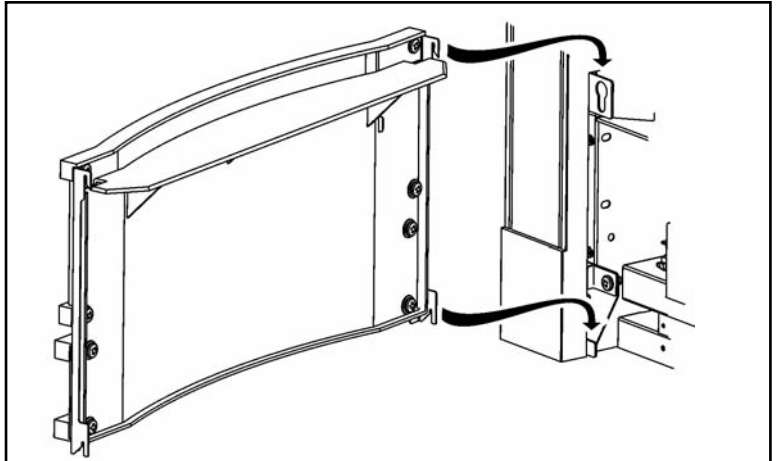

Figure 14. Fitting the 'Westminster' firefront.
3. The rear of the firefront has four hooks that locate on to brackets on the fascia (See figure 14).